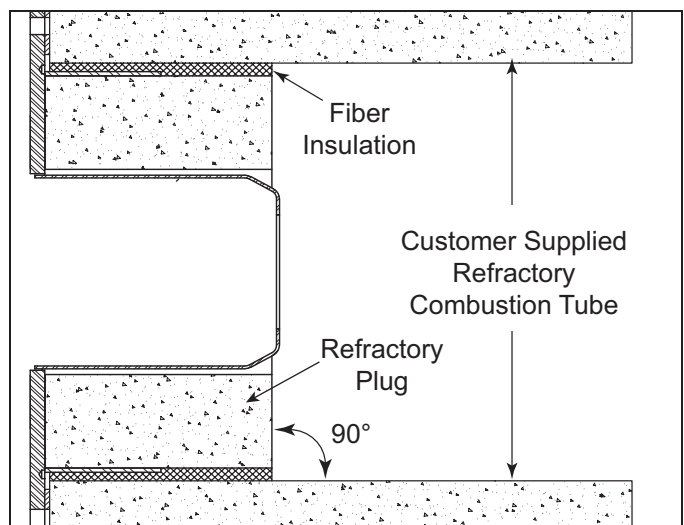

Figure 3.5 Refractory Plug
- The combustion tube dimensions are held as given in the Winnox Datasheet series 111. See Figure 3.5.